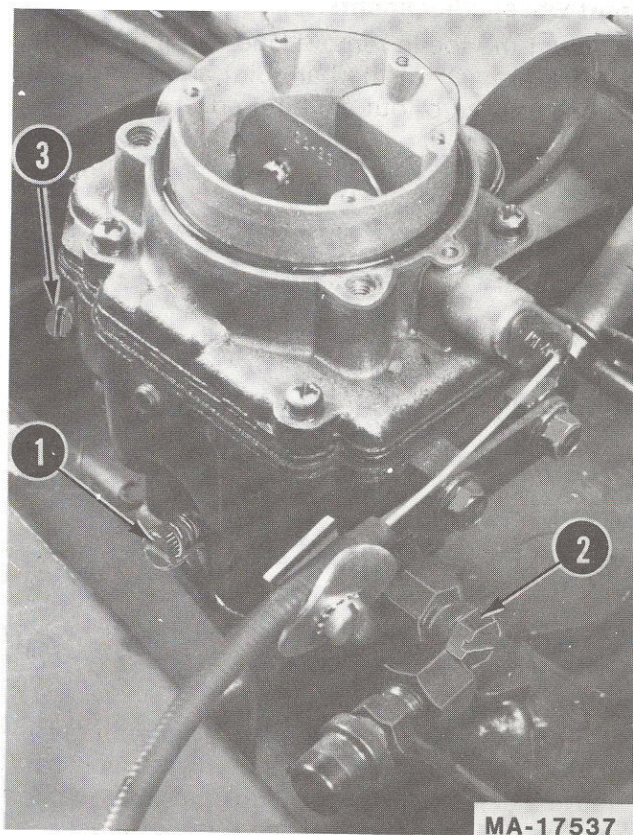

FIGURE 22.
1. Turn both mixture adjusting screws (refer to figure 22) in until lightly seated, then back idle fuel adjusting screw out 1-1/8 turns and main fuel adjusting screw out 1-1/2 turns.